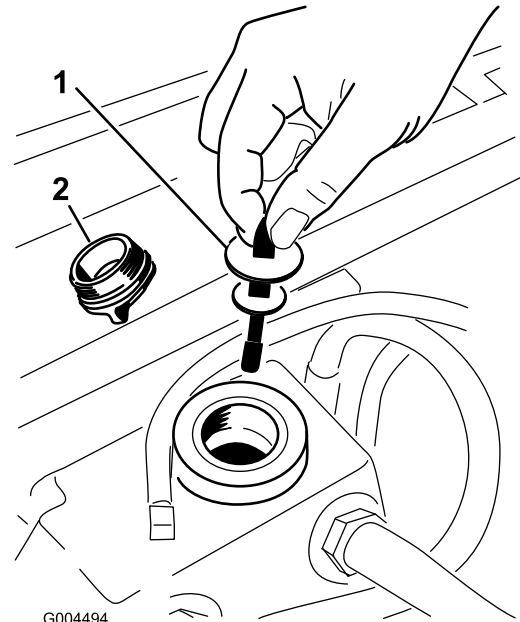

Figure 85
5. Remove the hydraulic fill cap from the filler neck (Figure 85).
6. Remove the dipstick and wipe it with a clean rag (Figure 85).
7. Place the dipstick into the filler neck; then remove it and check the level of fluid (Figure 85).